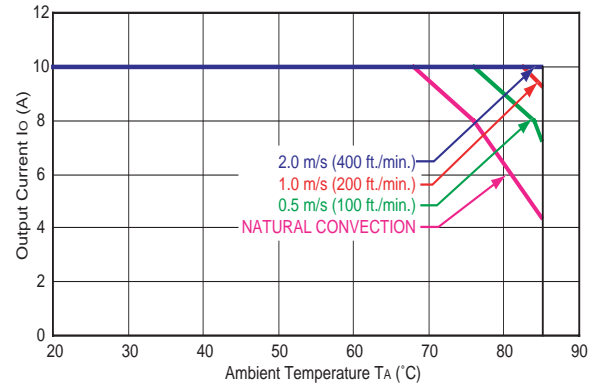

Figure 44. Derating Curves for HW010A0F1 (VO = 3.3 V) in Transverse Orientation (VI = 48 Vdc).
Increasing airflow over the module enhances the heat transfer via convection. Figures 44—48 show the maximum current that can be delivered by various modules versus local ambient temperature (TA) for natural convection through 2 m/s (400 ft./min.).
Systems in which these power modules may be used typically generate natural convection airflow rates of 0.3 ms⁻¹ (60 ft./min.) due to other heat-dissipating components in the system. Therefore, the natural convection condition represents airflow rates of up to 0.3 ms⁻¹ (60 ft./min.). Use of Figure 44 is shown in the following example.
Determine airflow (v) (Use Figure 44.):